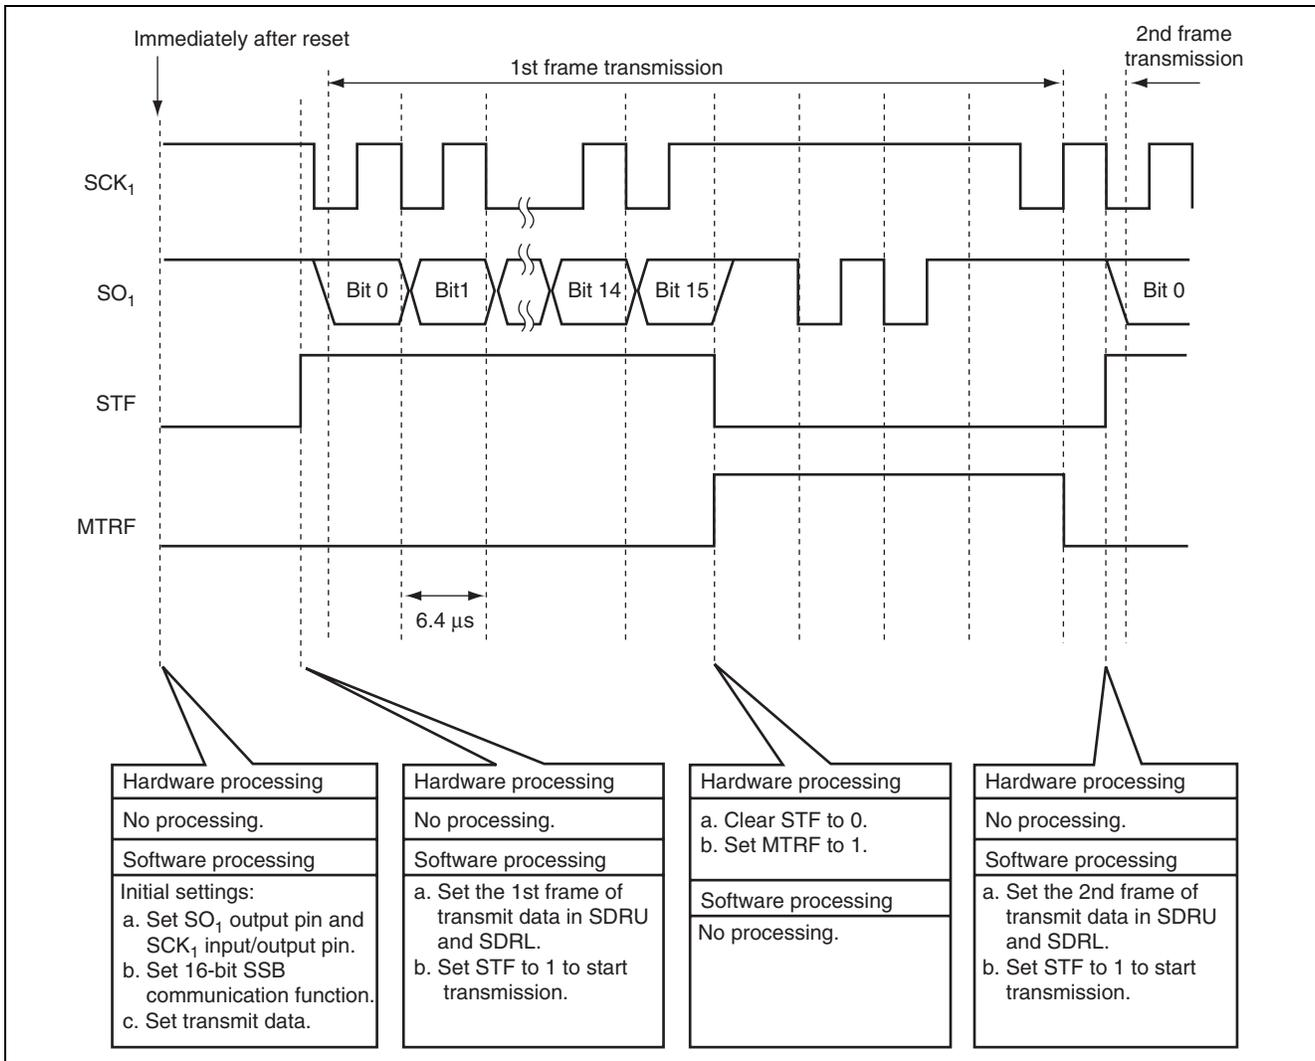

Figure 3.1 Principle of Operation of SSB Communication
1. Figure 3.1 shows the principle of operation. SSB communication is performed with the hardware and software processing shown in the figure.